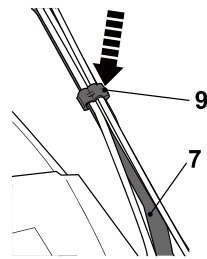

Fig. 6
8. Fix the wires (5) with the wire clip (9) to the lower handle bar (7) (Fig. 6).